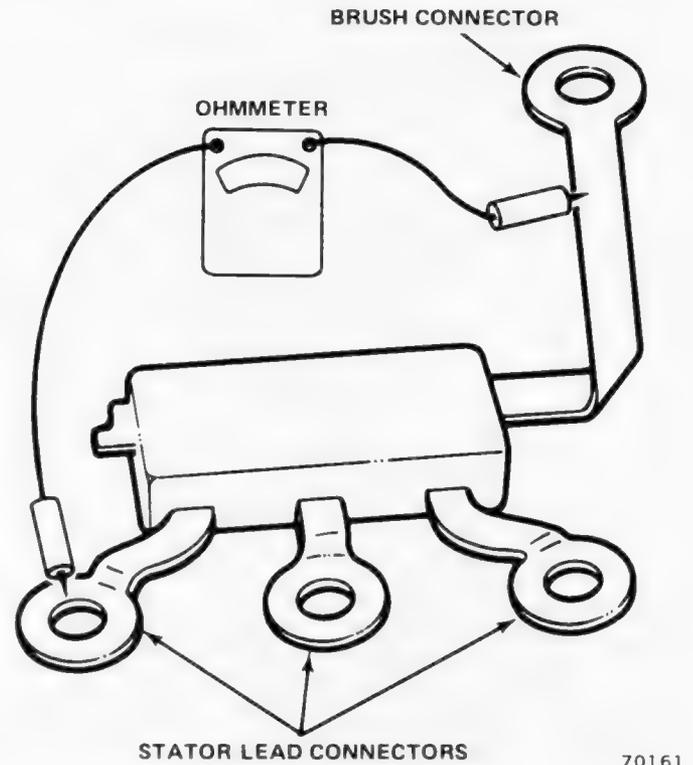

Fig. 1E-9 Testing Diode Trio
(1) Connect ohmmeter to grounded heat sink and one of three terminal tabs (fig. 1E-10). Note reading.
(2) Reverse lead connections to grounded heat sink and same terminal tab. Note reading.
(3) Replace rectifier bridge if both readings are the same.
(4) Repeat steps (1) and (2) for each of the other two terminal tabs.
(5) In the same manner, test between insulated heat sink and each of three terminal tabs.